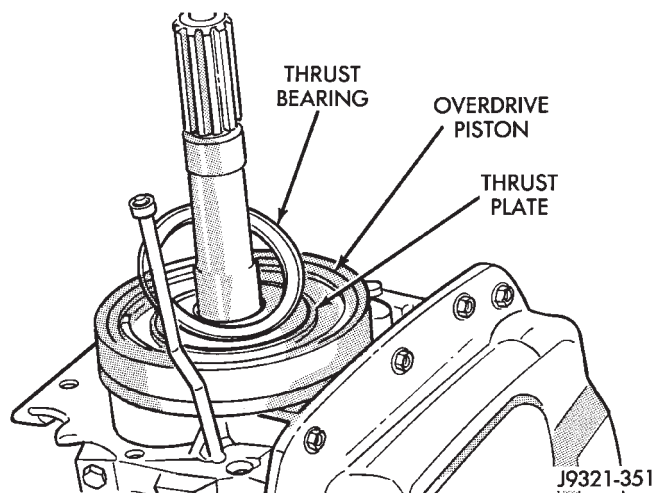

Fig. 247 Overdrive Piston Thrust Bearing Removal/Installation
(5) Remove overdrive piston thrust bearing (Fig. 247).